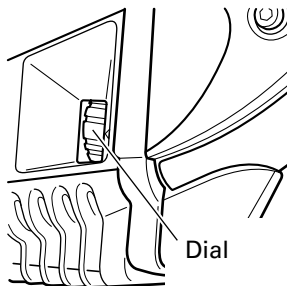

Fig. 9 (H60MRV)
6. Select the number of strikes (applicable only to H60MRV) (Fig. 9)